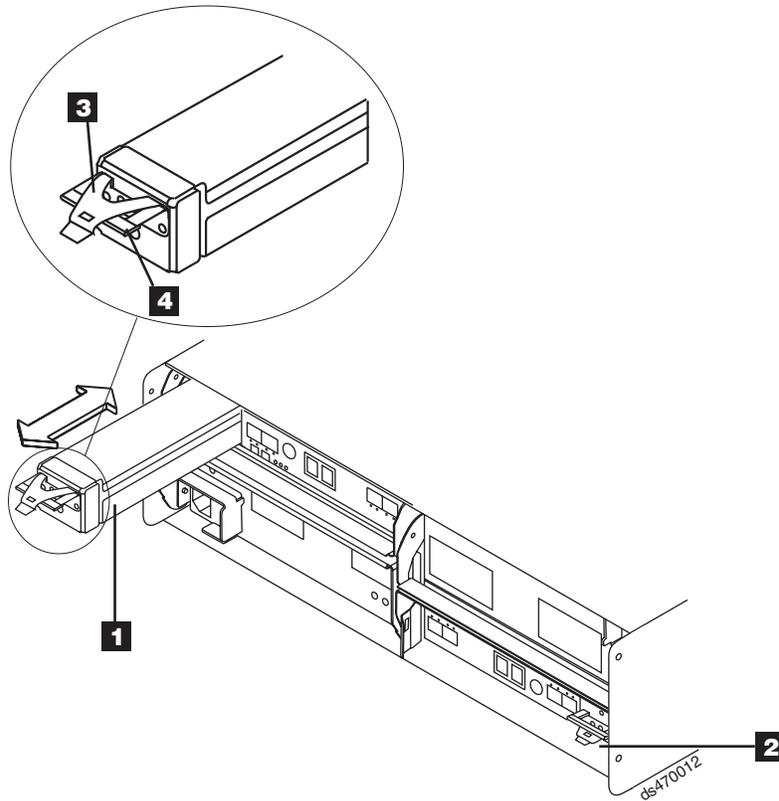

Figure 92. Removing and replacing a battery unit from the controller chassis
5. To remove the failed battery unit from the RAID controller, press the battery unit latch (the coral colored tab **3**) toward the black colored battery pull handle (**4**) to unlatch the battery from the DS4700 chassis and slowly pull the battery unit from the controller chassis using the black handle, as shown in Figure 92 on page 138.